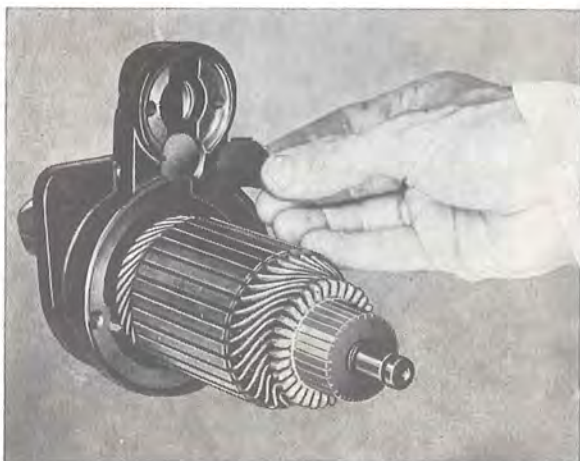

Fig. 3-36. Removing the sealing washer
9. Remove the rubber washer and metal washer, see Fig. 3-36.